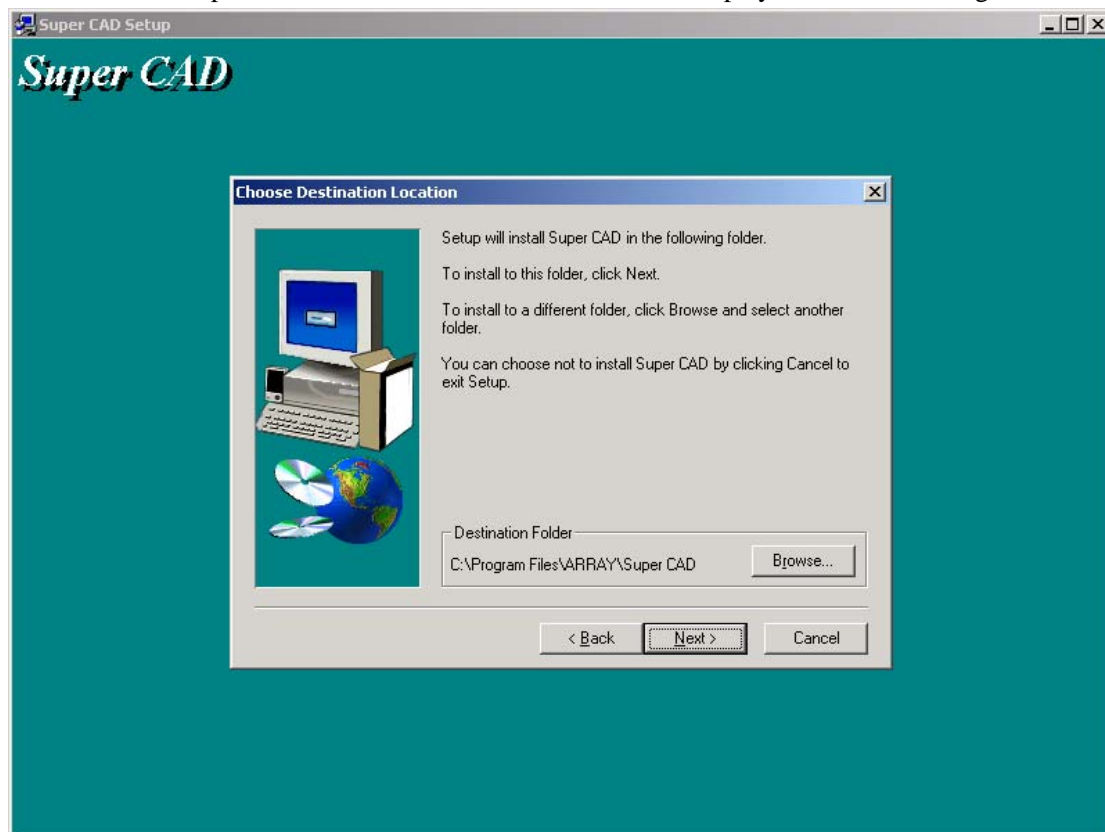

Fig. 1.4 Destination Folder Window
4. After setting the user information and entering the correct Serial No., click [Next] to enter the next step. The Destination Folder Window will be displayed, as shown in Fig. 1.4.